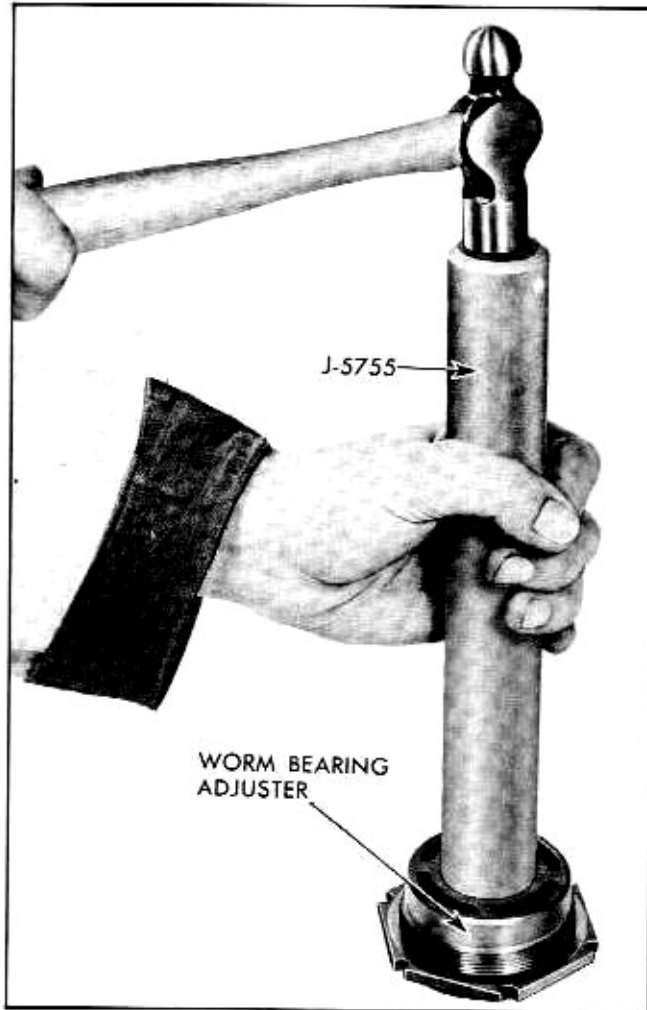

Fig. 9-24 Installing Lower Bearing Cup
4. Install lower bearing cup with Tool J-5755 (Fig. 9-24).